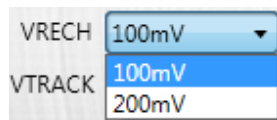

Figure 13: Setting the Auto-Recharge Voltage
- The default value is 100mV (see Figure 13).